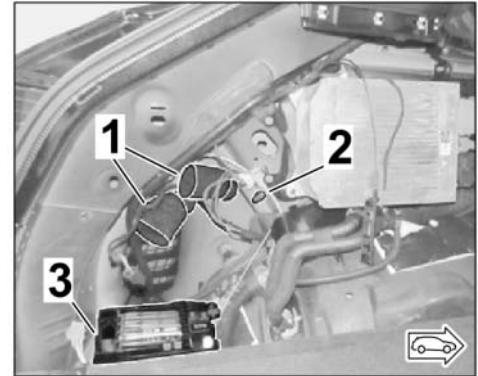

Figure 4
- 1.4 Expose connector B (6-pin)/connector C (10-pin) on trailer hitch preparation near the fuse box in the luggage compartment (⇒ Figure 4).